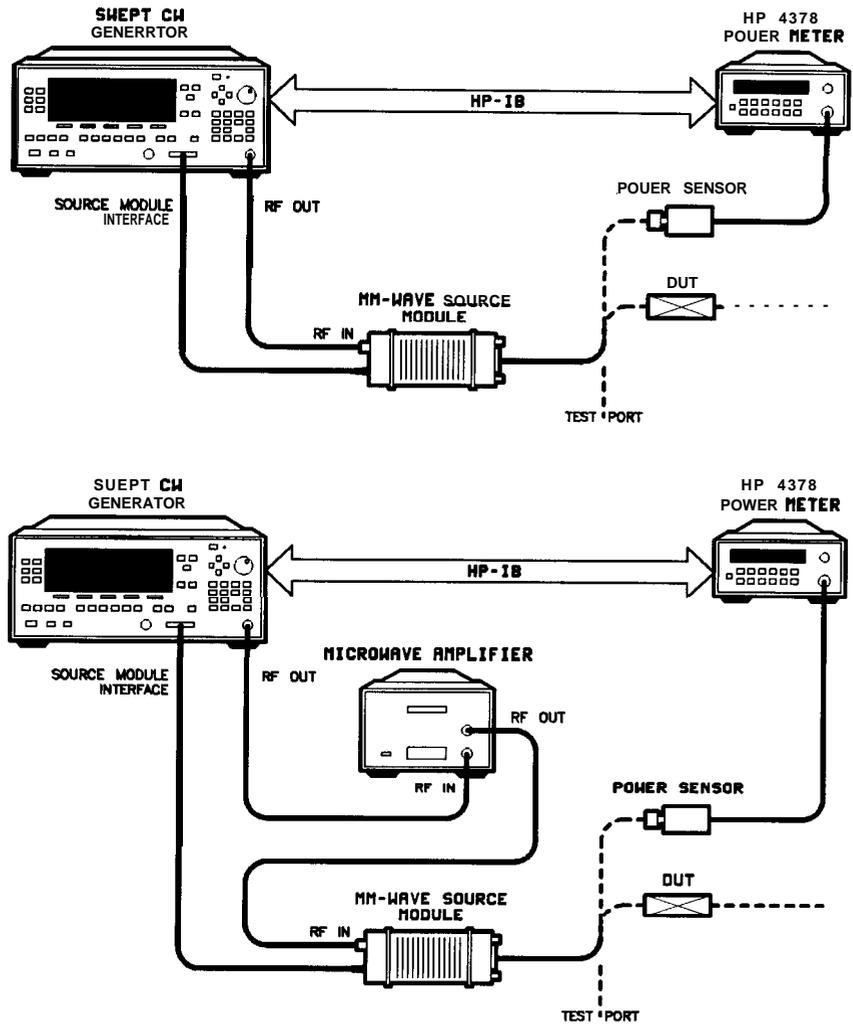

Figure I-20.
1. The equipment setup shown in Figure I-20 assumes that you have followed the steps necessary to correctly level the configuration. If you have questions about external leveling, refer to “Externally Leveling the Swept CW Generator”.